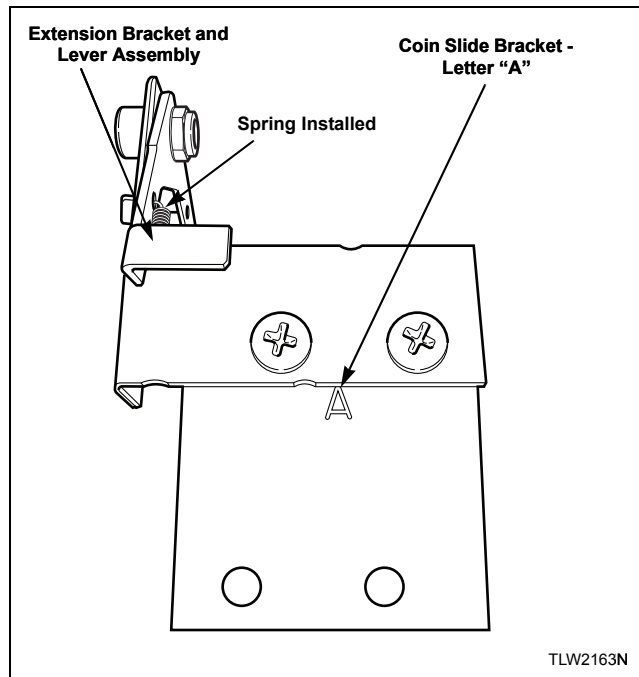

Figure 30
5. Install extension bracket and lever assembly onto coin slide bracket using two screws and locknuts. Refer to *Figure 30*.
**IMPORTANT:** Install coin slide bracket with side marked “A” facing up and toward extension bracket and lever assembly. Refer to *Figure 30*.